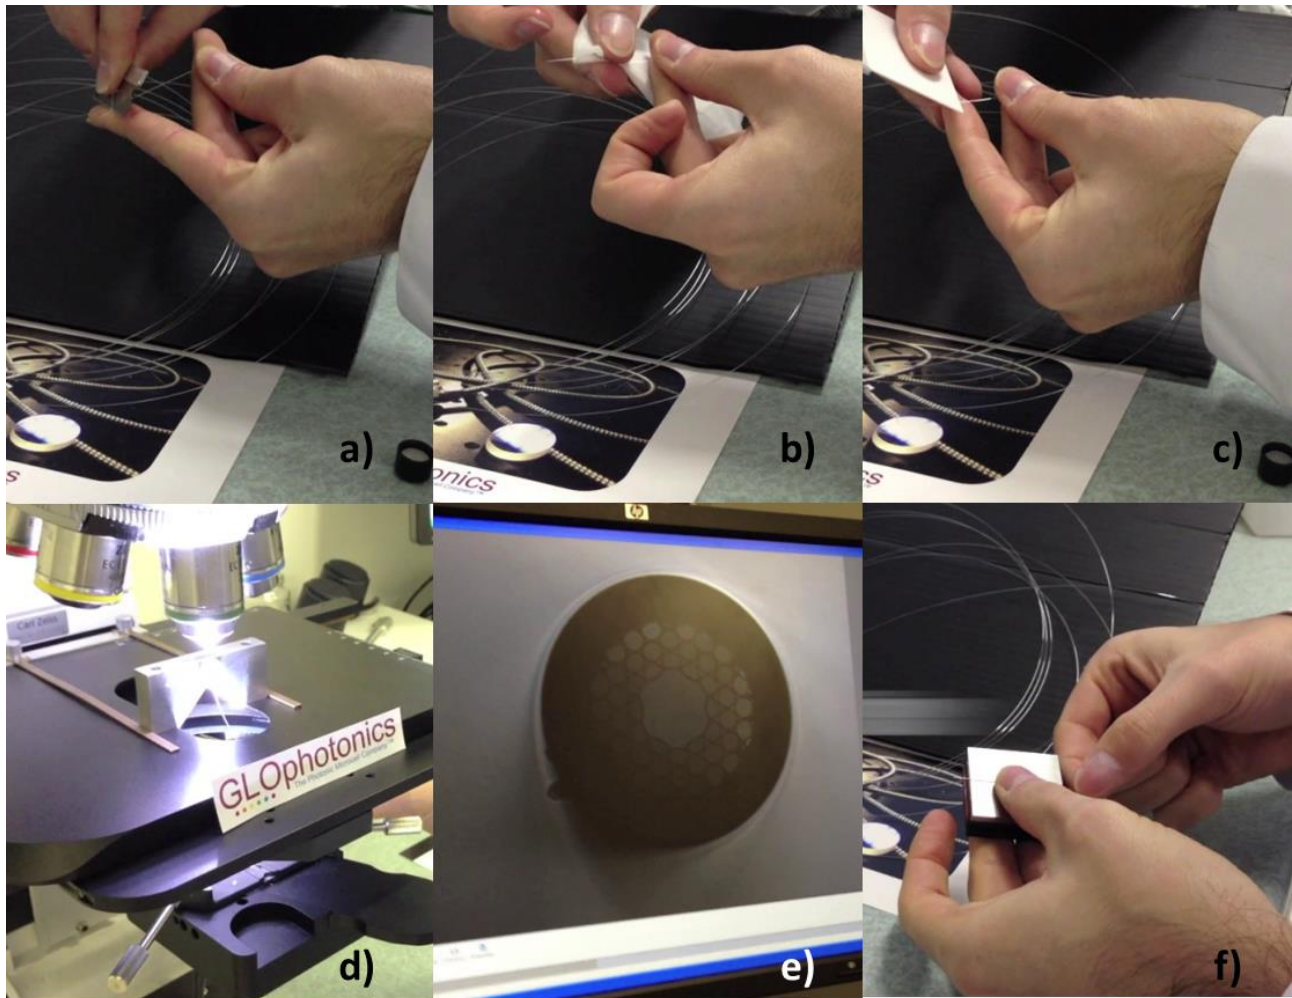

Fig. 7.2 : Fiber tip preparation
- Strip out fiber coating with a razor blade (Fig 7.2.a)
- Clean the stripped fiber section with a single pass of fiber optic cleaning wipe soaked with isopropyl alcohol (Fig 7.2.b)
- Scratch the fiber with a ceramic blade or a diamond-tip scribe and slap the tip to break it (Fig. 7.2.c)